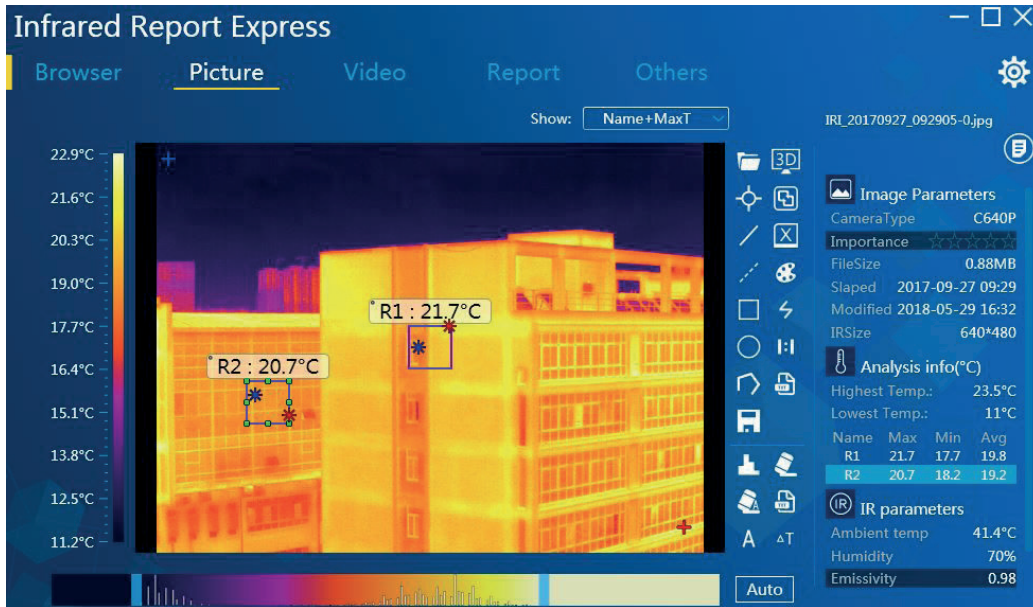

Figure 3-44
2. Click the label of “Picture analysis”, then the program will automatically skip to the picture analysis interface and load the selected infrared picture. At this time the user can make any analysis and modification to the picture (e.g., change ribbon, add analysis objects and other operations). See Figure 3-44: